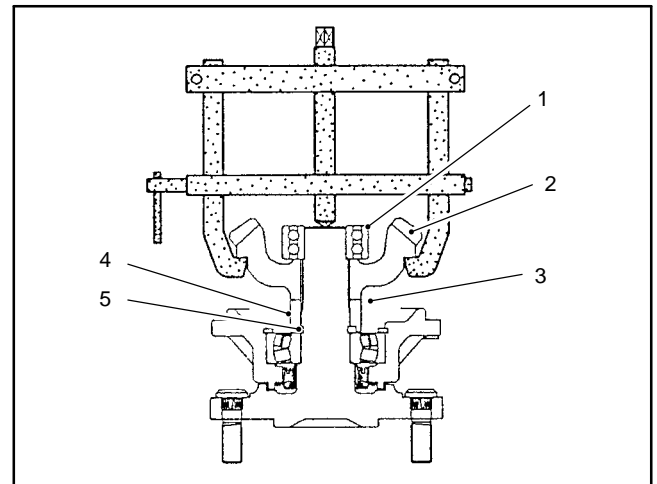

Figure 30
2. Use a bearing puller to remove the bearing and bevel gear as shown (Fig. 30).